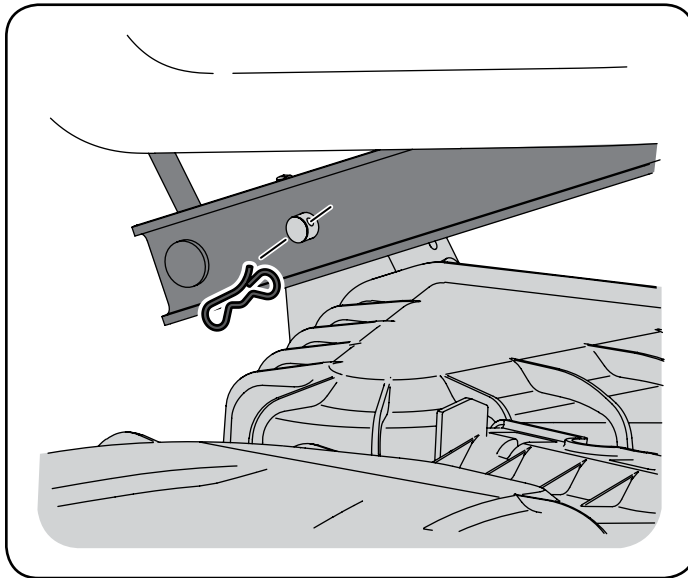

Figure 27
4. Looking at the cutting deck from the left side of the tractor, locate the bow-tie pin on the rear left side of the deck. See Figure 27.
5. Remove the bow pin and slide the deck pin out of the deck lift arm. See Figure 27.